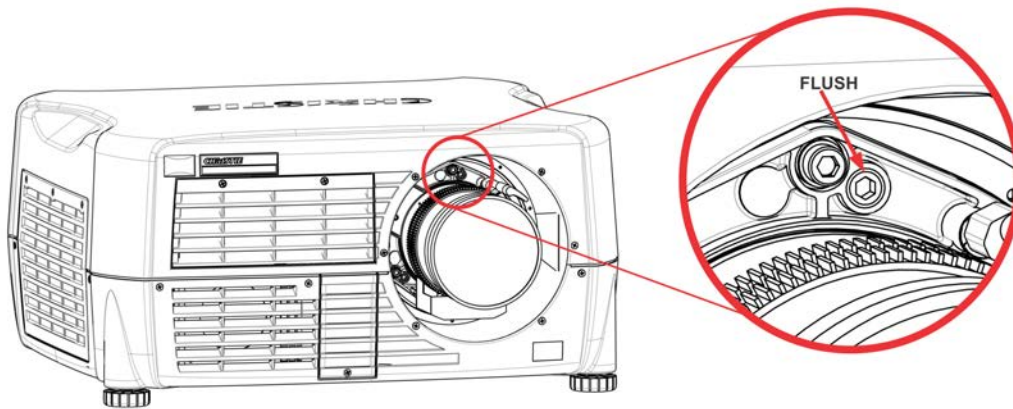

FIGURE 2-9
9. The original factory boresight can be recovered approximately by positioning the 3 setscrews, see Figure 2-8. Position the setscrews flush with the front face of the lens mount plate and in contact with the inner lens mount plate, see below Figure 2-9. This may require adjusting both setscrews and cap screws.